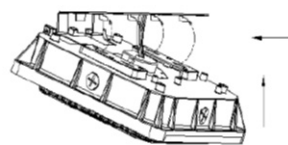

Fig. 4
- 3) Slide the fixture towards the hook, fasten the screw A to the block fixture (Fig. 4, 5)